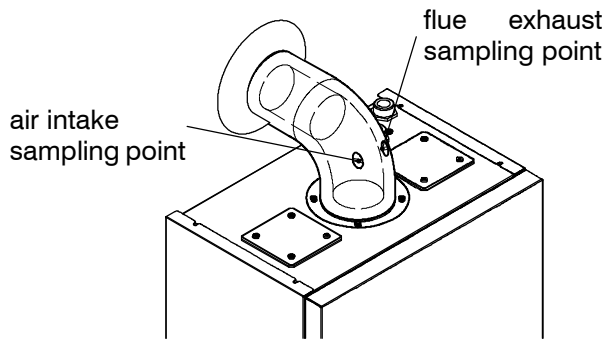

Fig. 8.4
- 11 Fit the probe of the flue analyser in the flue exhaust sampling point located on the exhaust pipes of the boiler (Fig. 8.4).